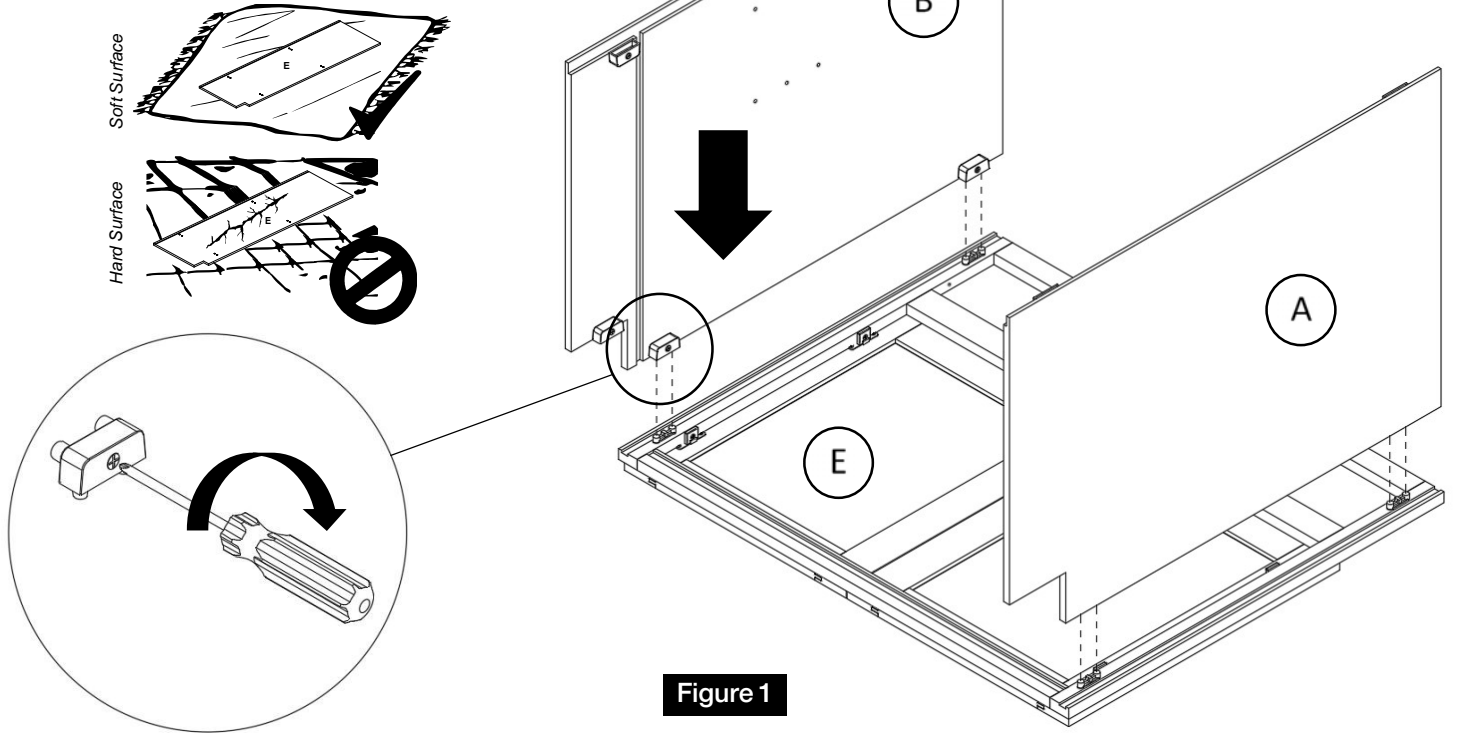

Figure 1
Assemble the Side Panels (A,B) onto the Frame (E) by connecting the male and female cam locks and using a screwdriver to turn the lock clockwise. (Figure 1)